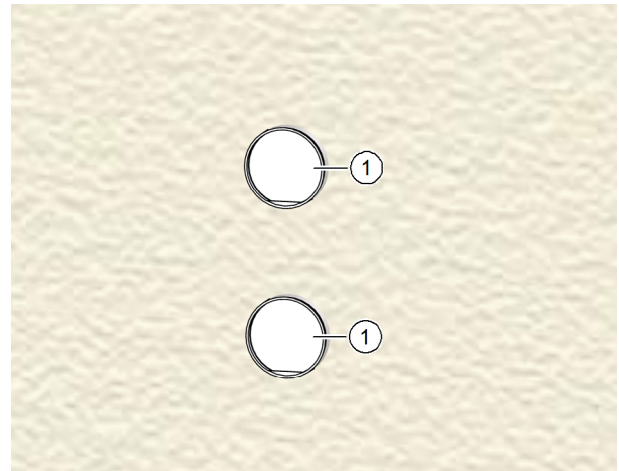

Fig. 21: Wall box plastered on the outside
- ▶ Remove the two protective sleeves (item 1 in Fig. 21).